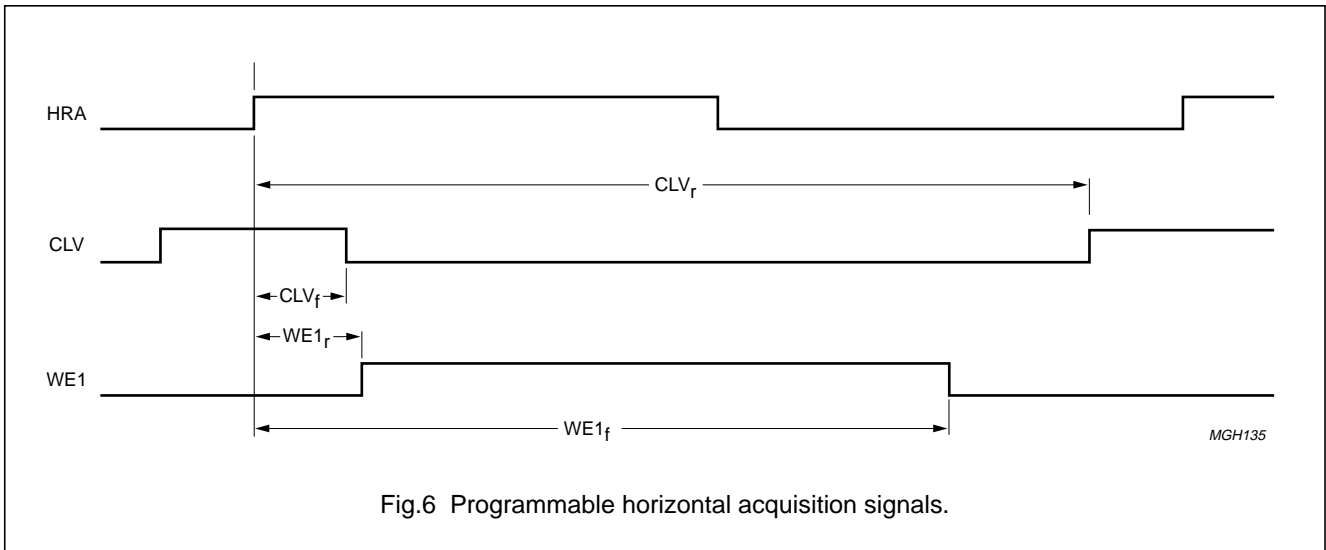

Fig.6 Programmable horizontal acquisition signals.
**Table 4** Horizontal programming range of CLV and WE1 (see also Fig.6).